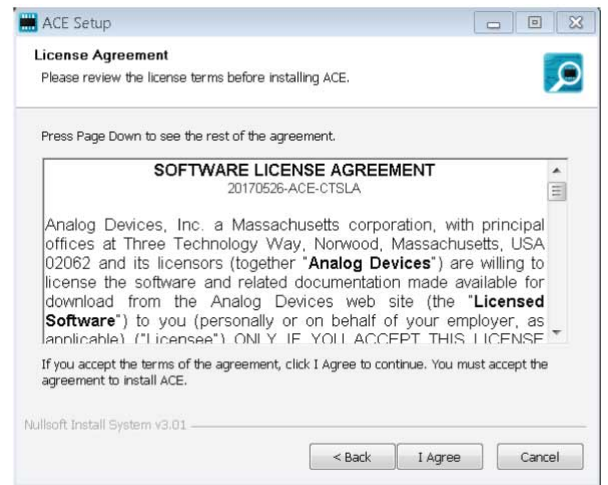

Figure 9. License Agreement
5. Read the software license agreement and click **I Agree** (see Figure 9).